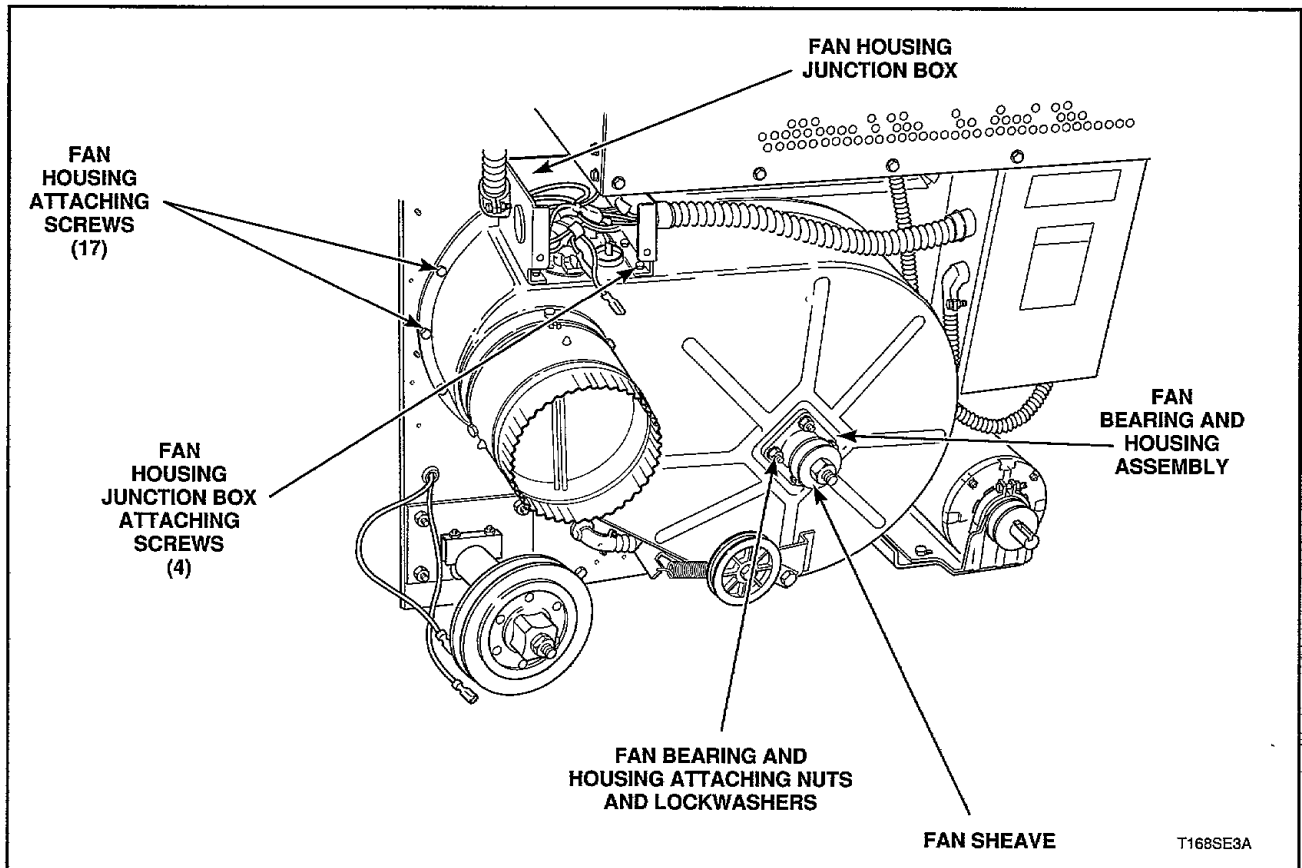

Figure 25
- d. Remove screws from fan housing junction box cover and remove cover, *Figure 25*.
- g. Remove 17 screws holding fan housing to cabinet back, *Figure 25*.
- Loosen fan sheave setscrew. Remove fan sheave, *Figure 25*.